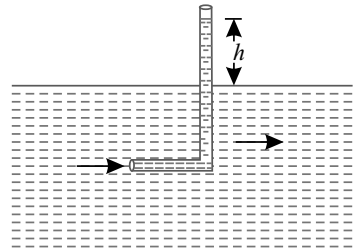

Fig. 16.38. Pitot tube.
1. **Pitot tube.** A pitot tube is a simple device used for measuring the velocity of flow at the required point in the flowing stream. In its simplest form it consists of a glass tube (large enough for capillary effects to be negligible) bent at *right angle*. The tube is dipped vertically in the flowing stream with its lower open end facing the direction of flow and upper open end projecting above the water surface in the stream as shown in the Fig. 16.38. The water rises up in the tube, due to pressure exerted by the flowing water. By measuring the rise of water in the tube, the velocity of water (V) is calculated by using the following relation: